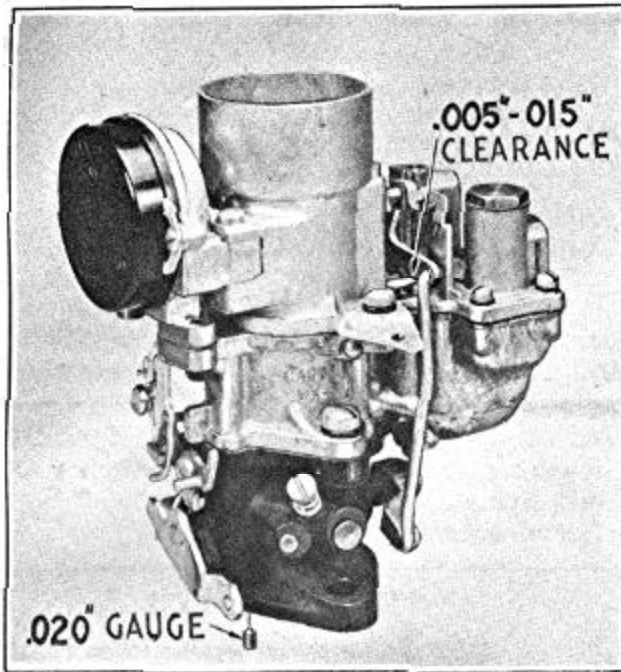

FIGURE 33
1. Crack throttle valve .020" by placing gauge J-1633 (Carburetor No. T-109-29), between throttle valve and bore of carburetor on side opposite the idle port, Figure 33.